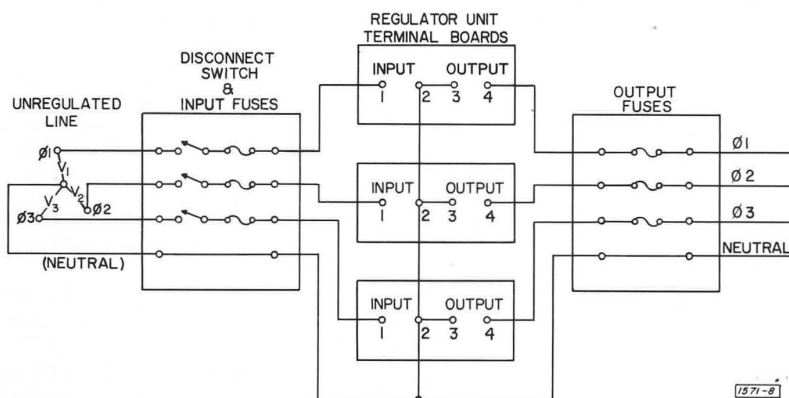

Figure 2-9. Circuit diagram for three regulators, four-wire wye connection.
**2.3.1.2 Four-Wire Wye Connection.** Figure 2-9 shows the connection of three regulators, with the disconnect switch and input and output fuses. The regulator voltage rating should be equal to the line-to-neutral voltage. Refer to Table 2-1 for appropriate fuse and disconnect-switch ratings.